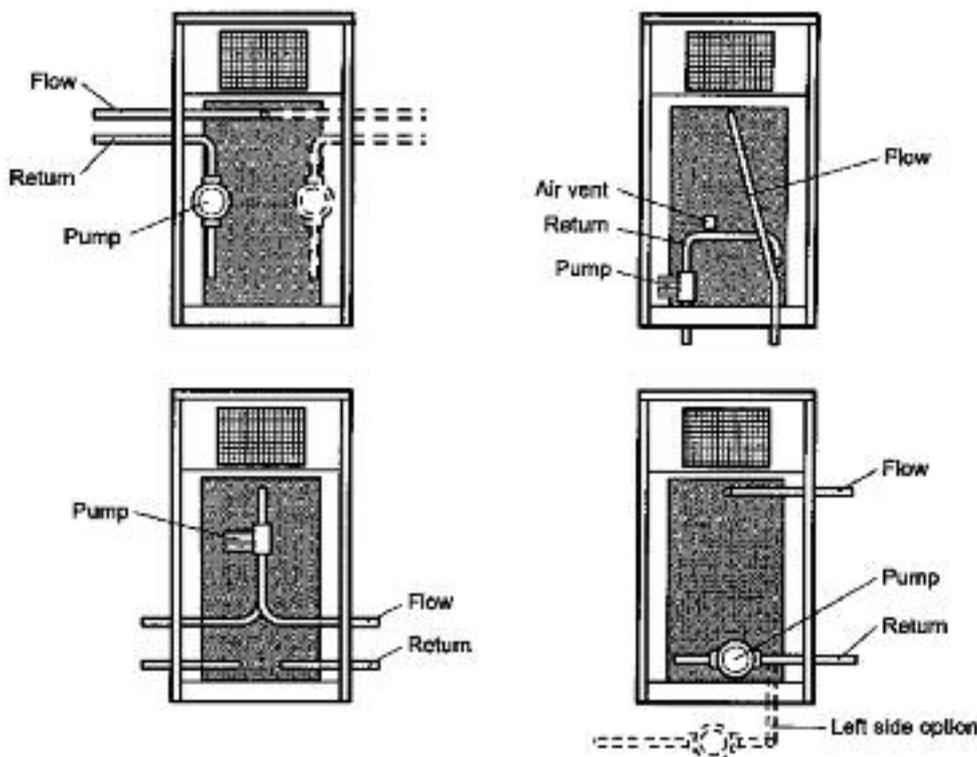

Fig. 14 - 50/70, 50/90 and 90/120 Water connections
See Fig. 14 or 14a
- 4 Connect the free end of the flexible hose to the expansion vessel, ensuring that the red sealing washer provided is fitted. Tighten the union nut on the flexible hose and place the expansion vessel on top of the boiler heat exchanger. See Fig. 14.